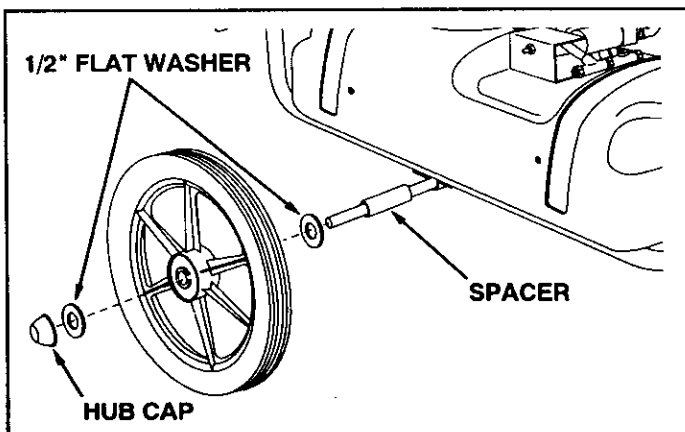

FIGURE 5
- Slide the axle through the two axle brackets. Assemble a spacer, a 1/2" flat washer, a wheel and another 1/2" flat washer onto the axle. Lightly tap a hub cap onto the end of the axle. Repeat on other end of axle. See figure 5.